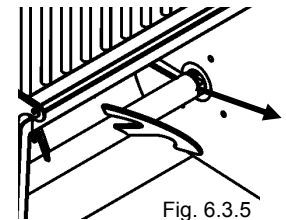

Fig. 6.3.5
- Make sure the mixing blades are positioned to allow for enough space to remove them Fig. 6.3.5.